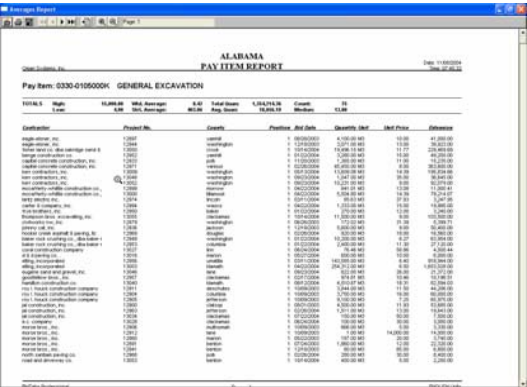

Figure 2.19
- Print** This option will print a report showing all the prices you have selected along with the averages shown on the screen. A sample report is shown in Figure 2.19.